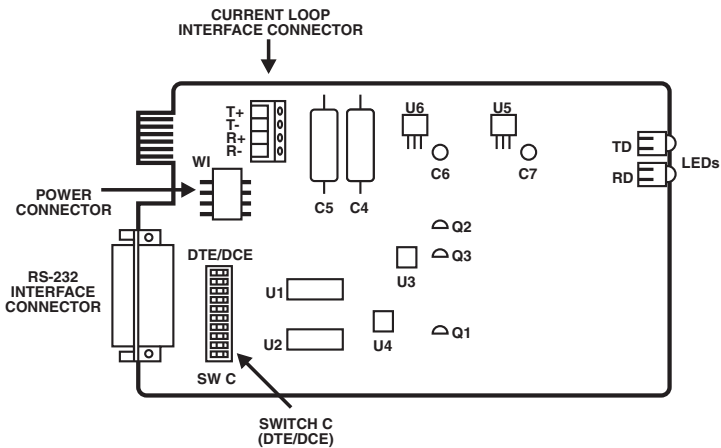

Figure 3-1. Board Layout.
3. Lift the back panel from its guide and insert the power supply receptacle (with the lip up) into the 4-prong plug near W1 (see **Figure 3-1**).
The Converter will operate at 130 volts DC, 60-ma as shipped from the factory. For 20-ma operation, remove the 82-ohm resistor that is in parallel to R+ and R- (see Figure 3-1).